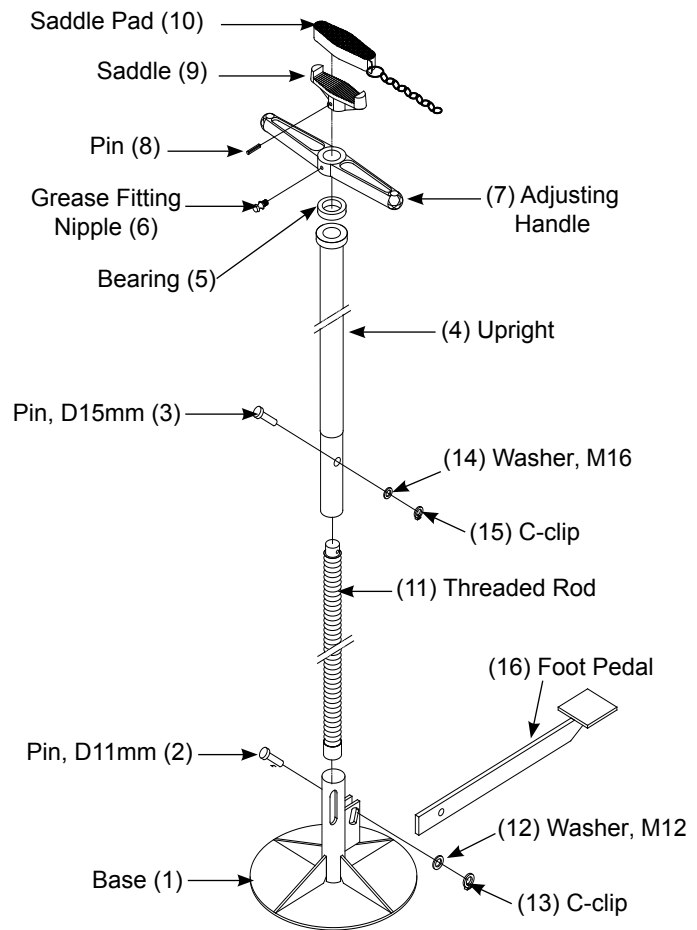

Figure 2 - 31501 Nomenclature
- b. For Model 31501 (see Fig. 2):
- i) Insert upright assembly onto the base (1) with slot in upright facing foot pedal mount and secure using the larger pin, washer & c-clip (3, 14 & 15).
- ii) Insert foot pedal (16) into slot on base (1) and secure with remaining pin, washer and c-clip (2, 12 & 13).